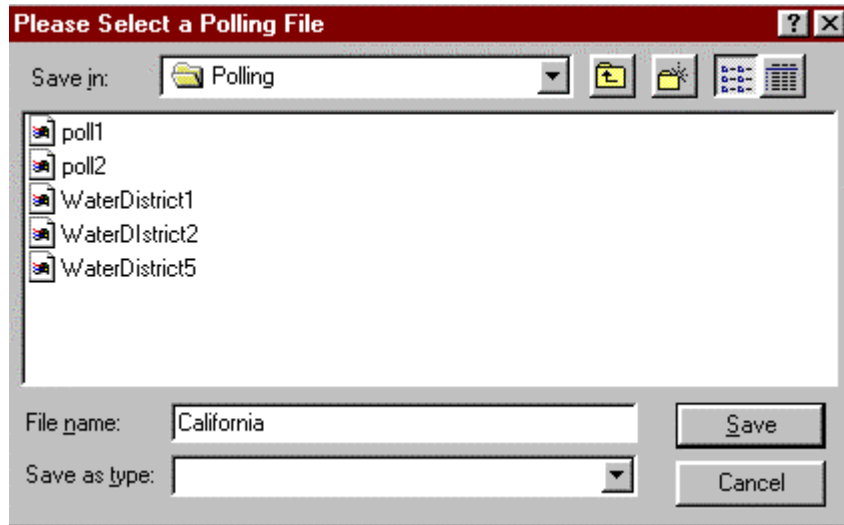

Figure 5.1.3f Saving the polling file, Example 5.1
- 7) Select "Save Polling File and Exit" from the Edit Polling file Dialog. Save the polling file as California. Figure 5.1.3f illustrates saving the polling file as "California".